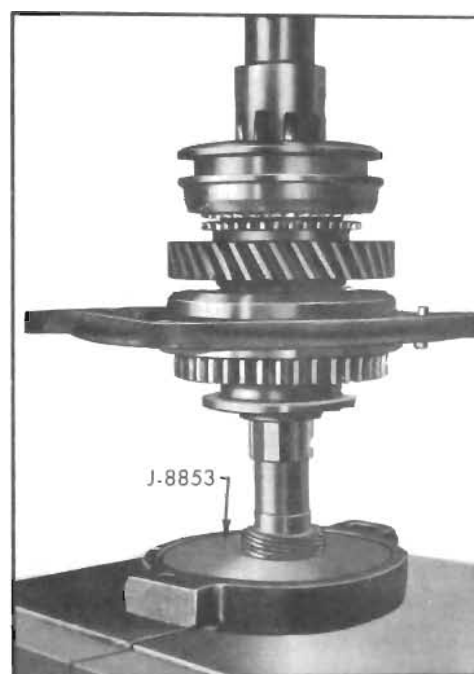
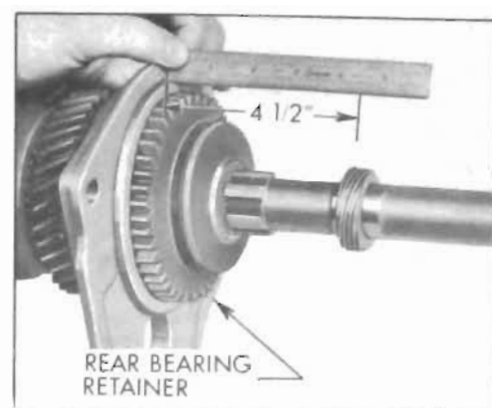

Figure 4-59—Installing Speedometer Drive Gear
Figure 4-60—Speedometer Gear Location
13. Press speedometer drive gear onto the mainshaft, using a J-8853, press plate. (See Figure 4-59). Position the speedometer gear to get a measurement of 4-1/2" from the center of the gear to the flat surface of the rear bearing retainer. (See Figure 4-60).